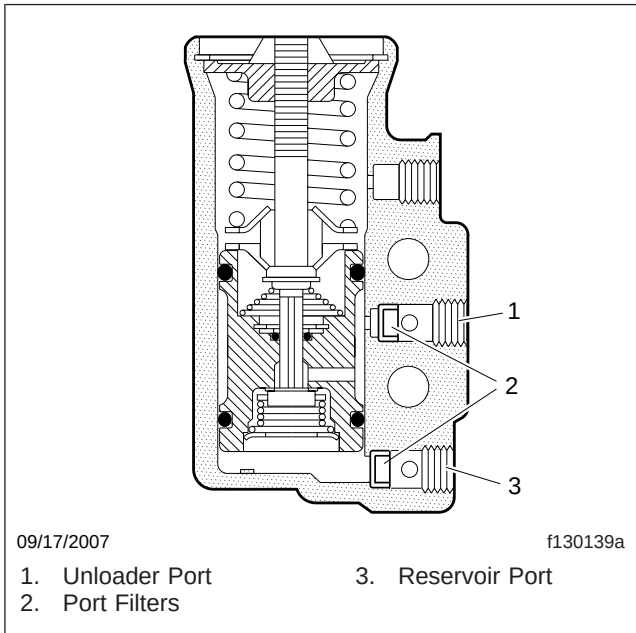

Fig. 2, Filter Installation
8. If necessary, install new filters (Fig. 2) in the reservoir and unloader ports. These cup-shaped filters can be installed with the eraser-end of a pencil.